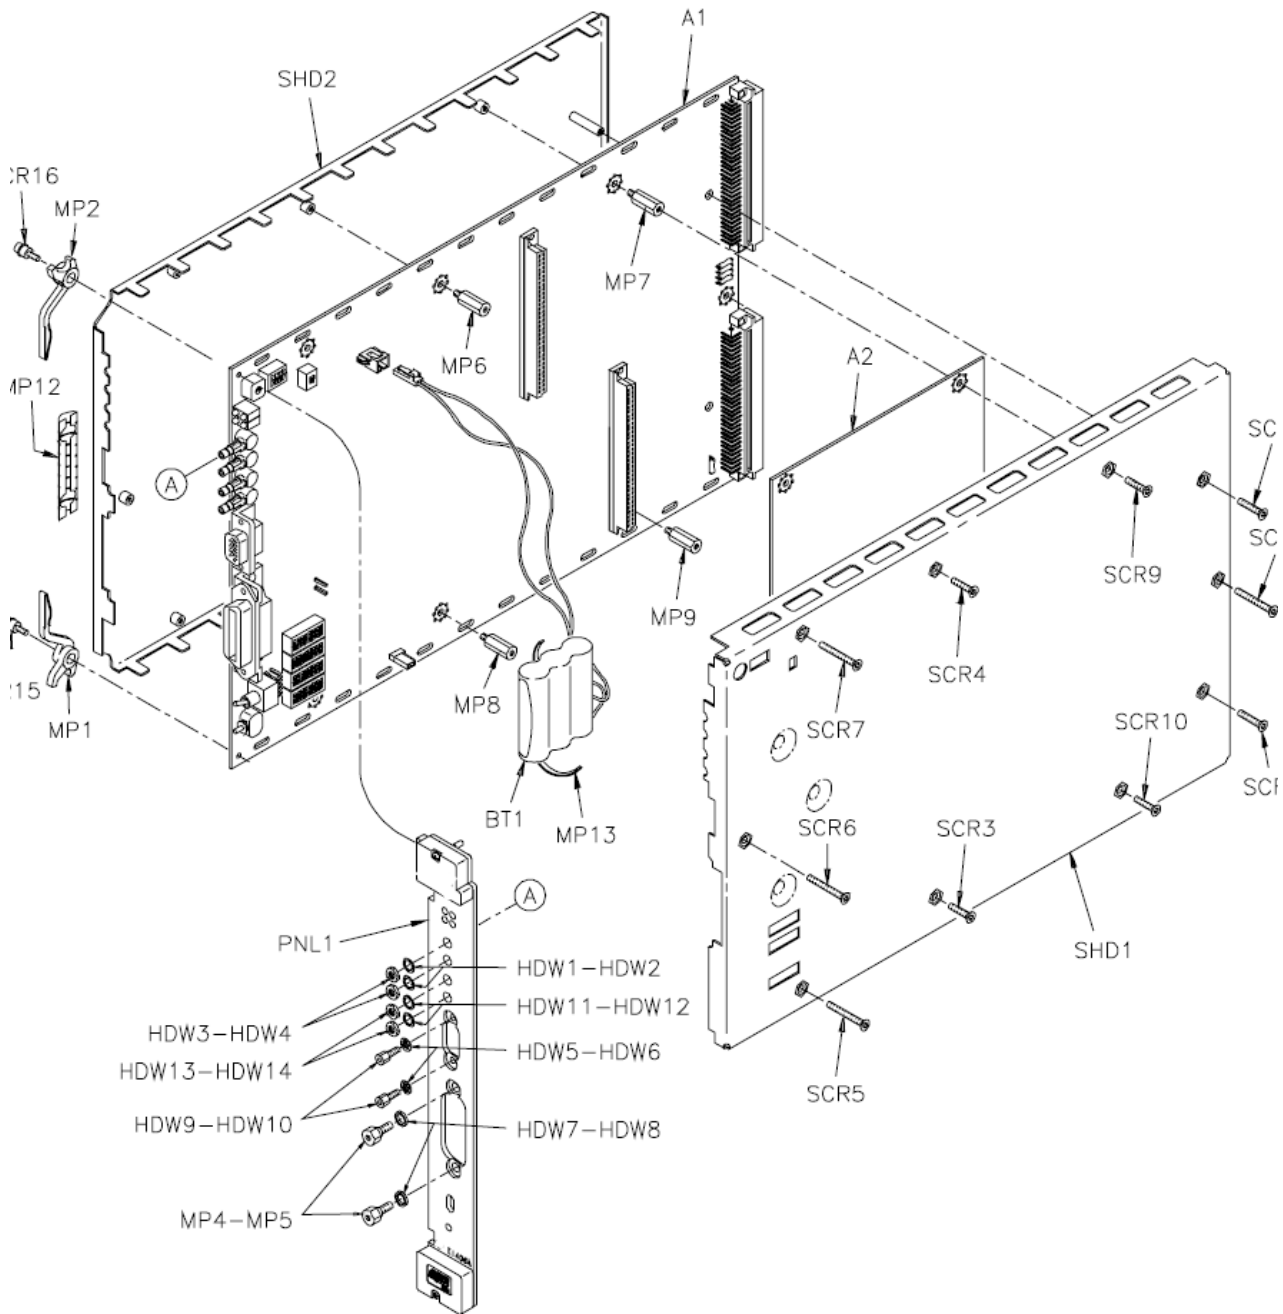

Figure 3-1 Keysight E1406A Replaceable Parts
Table 3-2 lists replaceable parts for the Keysight E 1406A Command Modules. See “Component Locators” (Figures 3-1 and 3-2) for locations of parts in Table 3-2. Table 3-3 shows reference designators for parts in Table 3-2, and Table 3-4 shows the manufacturer code list for the parts.
Keysight E1406A HARDWARE PARTS (Fig. 3-1)
Figures 3-1 and 3-2 show locations of selected replaceable parts for the Keysight E 1406A Command Module.
- Check fuses, and/or mechanical parts listed in Table 3-2. See Table 4-1 for suggested checks. See Figure 3-1 or 3-2 for component locations.